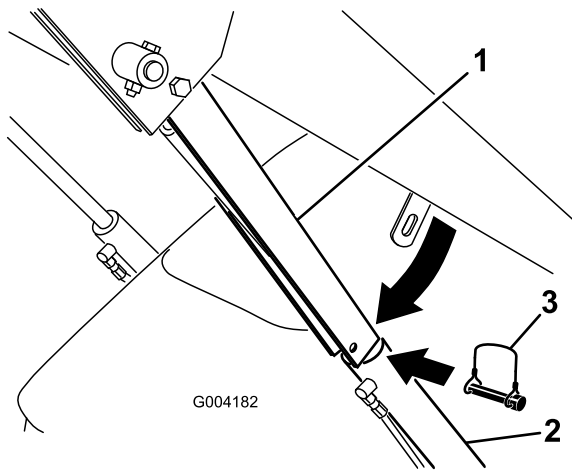

Figure 24
4. Remove the lynch pin securing the cylinder lock to the loader arm (Figure 24).
- 5. Lower the cylinder lock over the cylinder rod and secure it with the lynch pin (Figure 24).